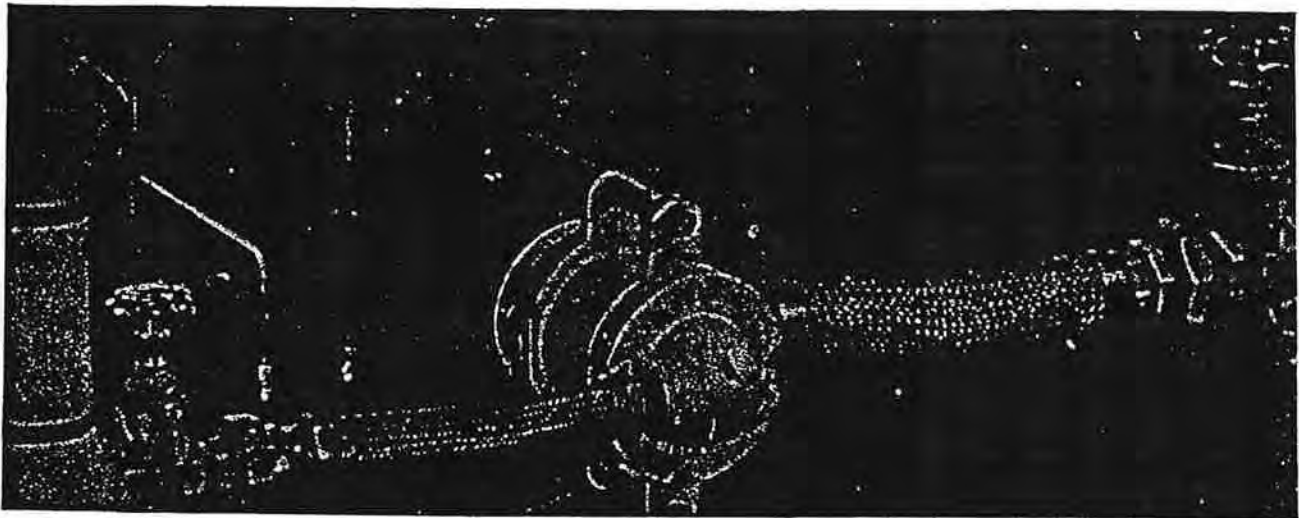

Fig. 5-7. Typical metal hose installation.
5.31 Another advantage of flexible metal hose is its ability to damp vibration, as, for example, where a pump is permanently mounted on a piece of equipment subjected to a high rate of vibration. It can be carrying a high-temperature, high-pressure corrosive fluid. The flexible hose runs from the pump to a fixed line of pipe and damps the vibration. The situation of constant bending at high temperature and pressure is excessively rough on most other types of hose. As another example, Fig. 5-7 shows a pair of these all-metal hoses used to carry water for cooling the rollers of heavy paper-mill machinery.